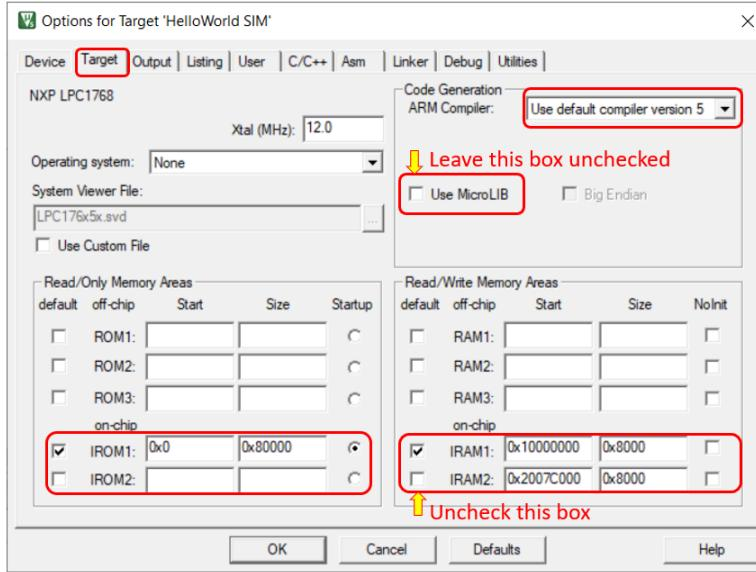

Figure 8.13: Keil IDE: Target Options Target Tab Configuration
2. Configure the Target tab as shown in Figure 8.13. We want to use the default version 5 arm compiler. We also want remove the IRAM2 from the default setting.
The default image memory map setting is that the code is executed from the ROM (see Figure 8.13). Since the ROM portion of the code needs to be flashed in order to be executed on the board, this incurs wear-and-tear on the on-chip flash of the LPC1768. Since most attempts to write a functioning RTX will eventually require some more or less elaborate debugging, the flash memory might wear out quickly. Unlike the flash memory stick file systems where the wear is aimed to be uniformly distributed across the memory portion, this flash memory will get used over and over again in the same portion.